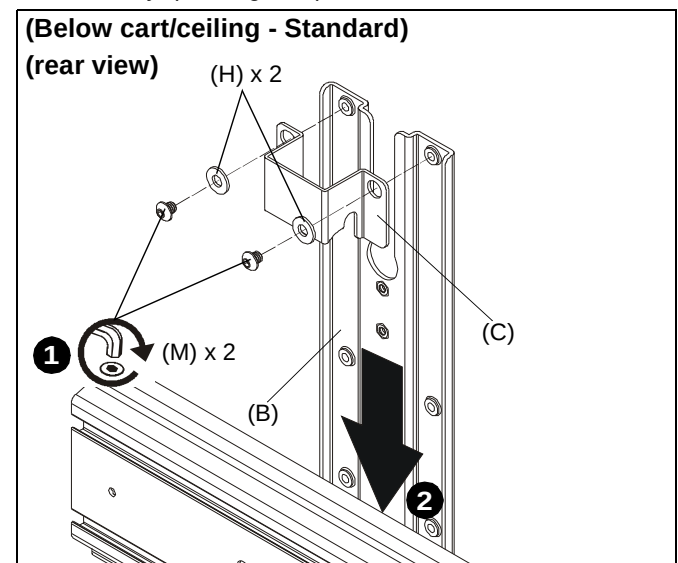

**Figure 6**
7. (For **minimum/intermediate extension**) Use two #10-24 lock nuts (G) to secure upright bracket (A) to main bracket (B) and adapter plate (E). (See Figure 6)
**NOTE:** Minimum configuration is shown in Figure 6. Several intermediate configurations are possible depending on which holes are used.
8. (For **minimum/intermediate extension**) Use 1/4-20 x 5/8" hex head flange bolt (N) and center washer (F) to secure upright bracket (A) to main bracket (B). (See Figure 6)